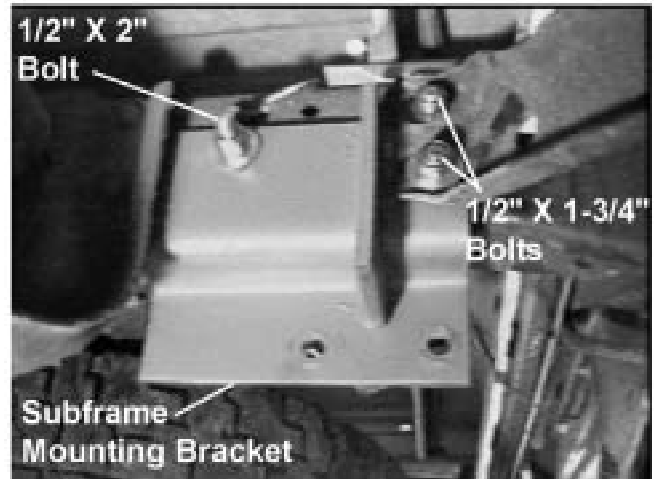

Figure 4
2. Position rear subframe mounting brackets to vehicle frame and align holes. Position outboard bumper brackets over subframe mounting brackets. Install one 1/2" x 1-3/4" grade 8 bolt and 1/2" flat washer through the bottom hole in the bumper bracket, subframe mounting bracket, and vehicle frame. Retain with 1/2" flat washer and 1/2" locknut. See Figure 4.
3. Install one 1/2" x 1-3/4" grade 8 bolt and 1/2" flat washer through upper bumper bracket hole, three 1/2" flat washers (between bumper bracket and vehicle frame), and vehicle frame. Retain with a 1/2" flat washer and a 1/2" locknut. See Figure 4.
4. Install one 1/2" x 2" grade 5 bolt and 1/2" flat washer through front hole in subframe mounting bracket and vehicle frame. Retain with 1/2" flat washer and 1/2" locknut. See Figure 4.